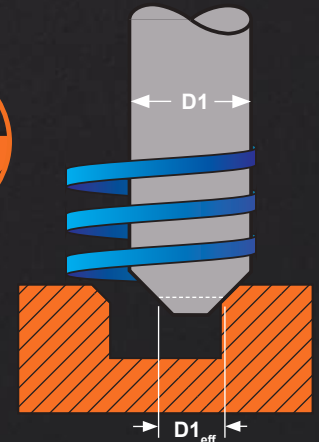
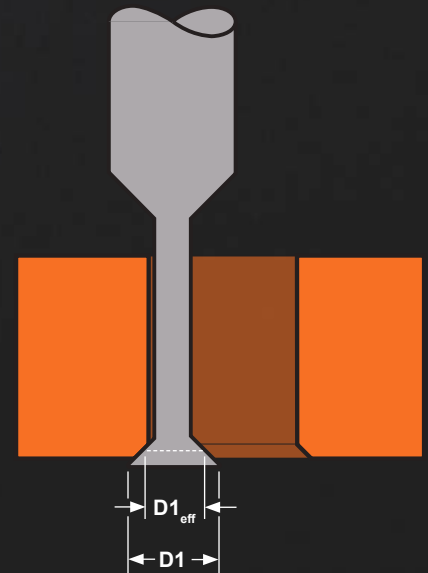

Fig. 2 - Helical Interpolation with our chamfering cutters
Fig. 3 - Helical Interpolation with a back chamfer tool.
- Make sure the effective cutting diameter ( $D1_{eff}$ ) of the tool serves as the basis for your speed and feed rates (Fig. 3).
- Helical interpolation (Fig. 2) is preferable to straight plunging with any of our chamfering tools and when back chamfering as well (Fig. 3).